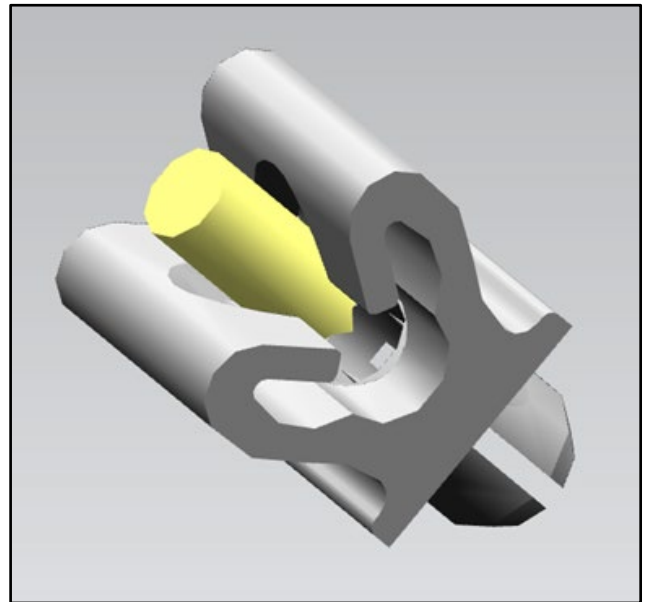

Figure 2
3. Examine the support bracket clips and make sure a locking pin type clip is installed (refer to Figure 2).